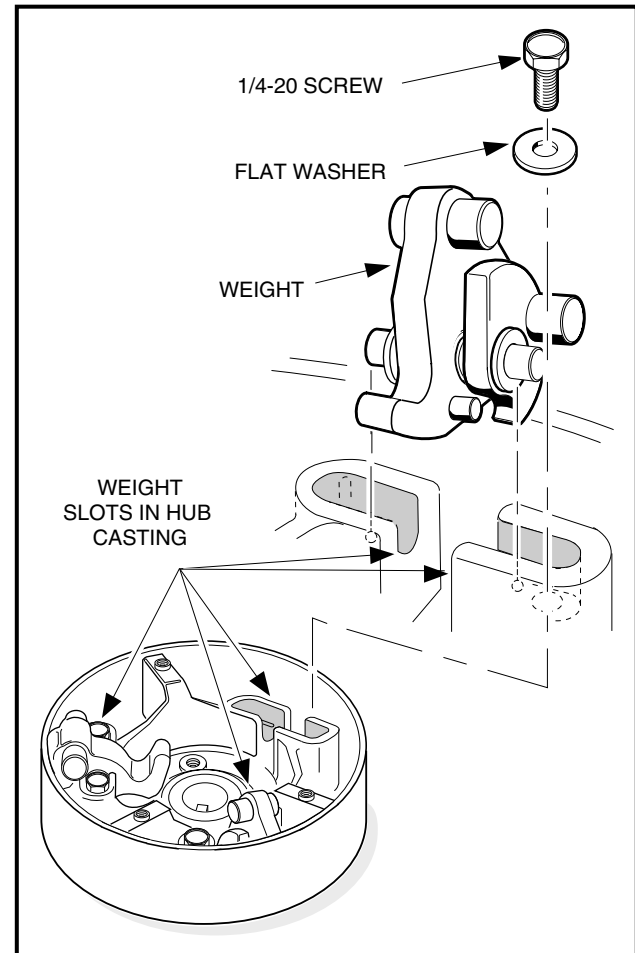

Figure 17-9 Weight Position
- 5.1. Remove the screws and flat washers attaching the weights as shown (**Figure 17-9, Page 17-10**).
11. Install the weight assemblies into the slots in the hub casting (**Figure 17-9, Page 17-10**). Make sure the mounting pin protrudes an equal amount on each side of the weights when the assemblies are in position (**Figure 17-14, Page 17-12**).
16. Install a no. 10-24 button retaining screw with flat washer through each button and into the rib. Tighten the screws to 34 in-lb (3.8 N·m) (**Figure 17-9, Page 17-10**).